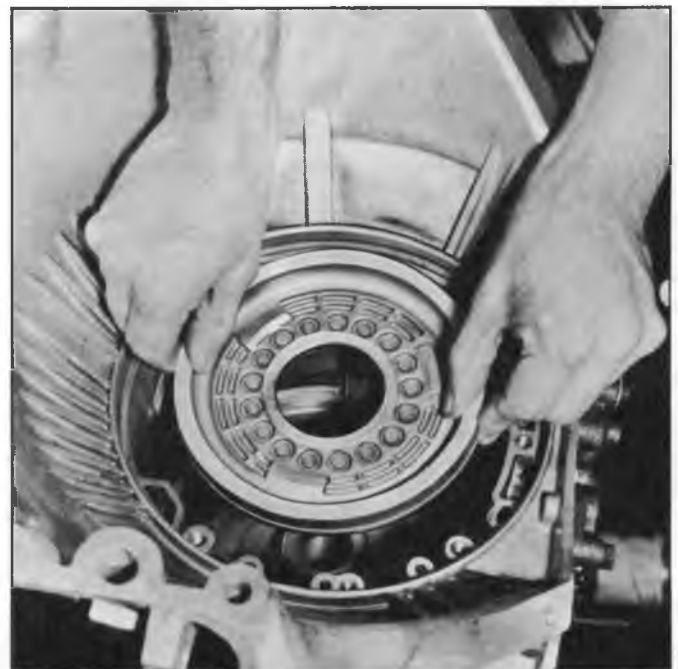

Fig. 29PG—Installing Reverse Piston
8. Install the inner and outer seals on the reverse piston and, lubricating the piston and case with transmission oil, install the piston into the case (fig. 29PG). If necessary, carefully slide a feeler gauge around the outer diameter of the piston to start the seal ring into the bore.